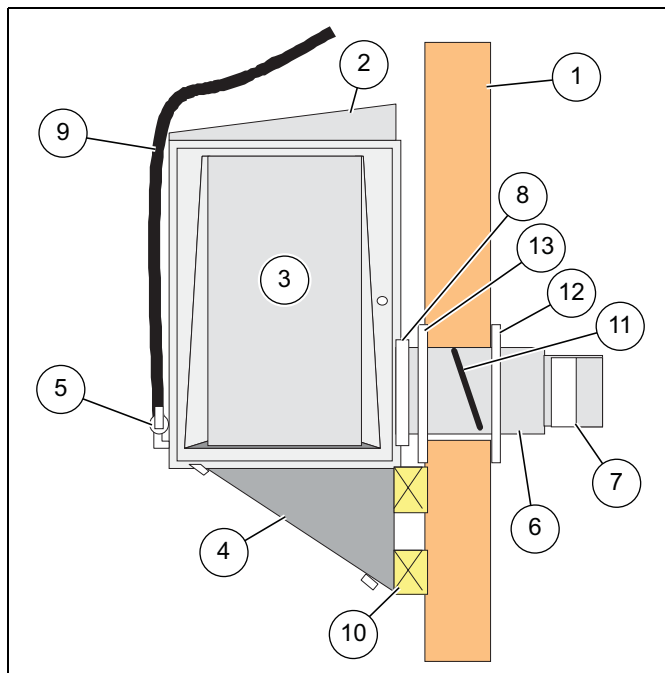

Figure 3F
7. Attach insert thru-wall extension duct assembly (6) through opening in wall. The “varmint” flap (11), located inside the thru-wall extension duct, should be positioned as shown in Figure 3F on Page 16.
8. Bend extension duct mounting flange (8) into a rectangle and fasten around exhaust outlet on the front of the heater with sheet metal screws provided.